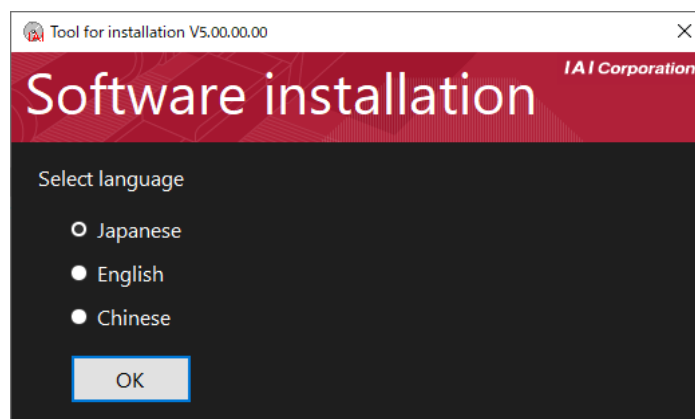

Fig. 1.1 Tool for installation window
- 2) The tool for installation window (Fig. 1.1) will be displayed.
* What to do if the tool for installation window (Fig. 1.1) is not displayed
If the data installation selection window (Fig. 1.1) is not displayed even when the DVD-ROM is inserted, display the window according to the process below.
- b. Double-click to  IAI_Install.exe display the tool for installation window (Fig. 1.1).